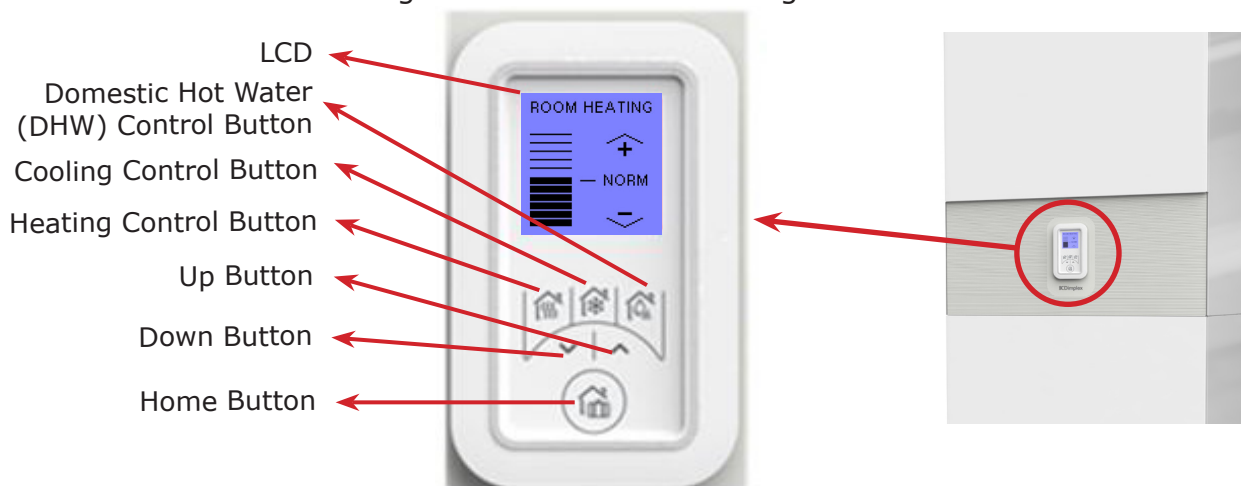

Fig. 58 : User Interface Overview
The Zeroth User Interface (UI) is located on the front of the appliance, shown in Fig. 58, and performs several functions.
The UI consists of the following elements as shown in Fig. 58.